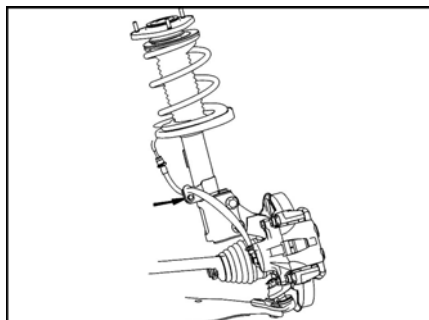

Fig. 2-19
2) Disconnect the brake hose. Remove the bolt, brake hose and ABS vehicle speed sensor harness clip from the shock damper bracket (of vehicle with ABS) according to Fig. 2-19.